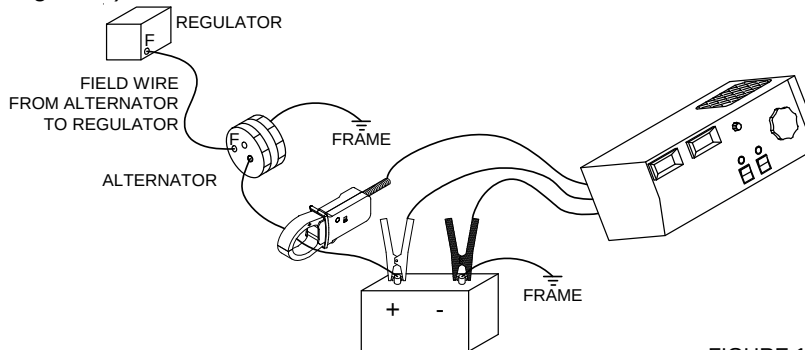

FIGURE 11:
- 1) Connect the unit to the vehicle as shown (See figure 11).